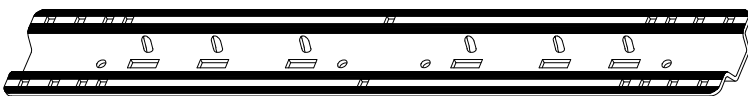

Figure A1
- **Mounting Rails:** Apply four strips along the bottom of the entire length of both rails. Take care not to cover any of the holes, see Figure A1.